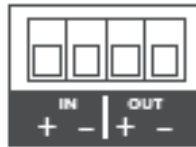

Figure 1: Euroblock Connector
2. Connect the wires from your amplifier to the Euroblock connector (see Figure 1).